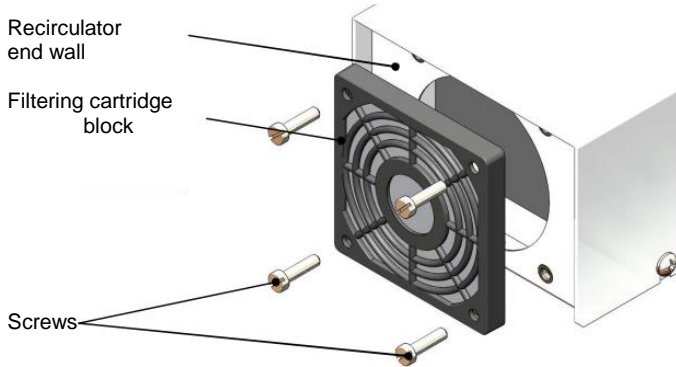

Fig. 4
- Remove filtering block by unscrewing four M5×18 screws (Fig. 4).